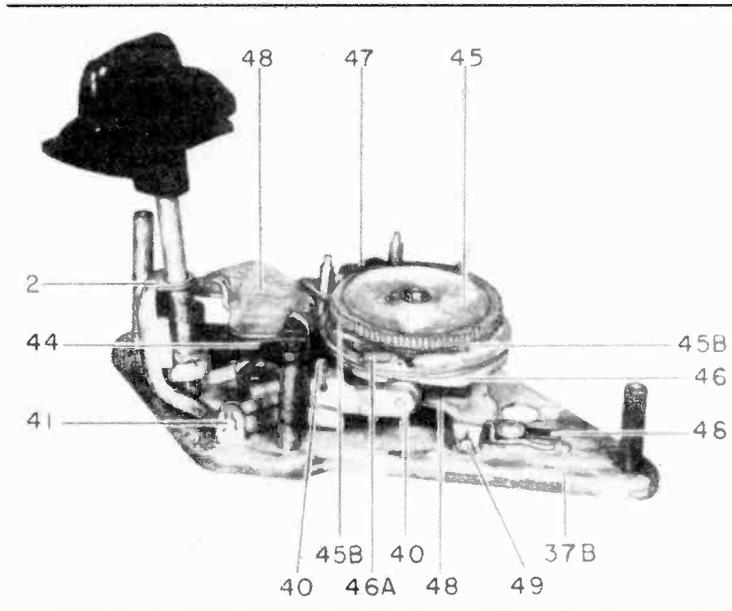

Fig. 5. Main Cam Gear Assembly
1. Changer Fails to Trip.	1. Check: (a) Adjustment A. (b) Velocity Trip and Roller Assembly binding (47, Figure 4). (c) Actuating Pawl (46A, Figure 5) stuck. (d) Automatic Trip Lever (30, Figure 3) bent and not hitting the Velocity Trip and Roller Assembly (47, Figure 3). (e) Velocity Trip and Roller Assembly rubbing on the underside of the Main Cam Actuating Gear. (f) Manual trip lever binding. (g) No velocity lead-in groove in center of record. (h) Worn record or needle. (i) Foreign matter in record groove.
2. Changer Trips Continuously.	2. Check: (a) Velocity and Roller Assembly (47, Figure 3) rubbing on Main Cam Actuating Gear (46, Figure 3). (b) Manual Trip Lever binding. (c) Hook end of Velocity Trip and Roller Assembly (47, Figure 3) bent and not engaging Pawl (46A, Figure 5). To be adjusted for about $\frac{1}{4}$ inch clearance from the bottom of the Main Cam Drive Gear. (d) Bakelite Disengage Roller broken on Velocity Trip and Roller Assembly (47A, Figure 4).
4. Manual Trip Fails.	4. (a) Manual Trip Lever Hair Spring bent or broken. (b) Velocity Trip and Roller Assembly binding (47, Figure 4). (c) Actuating Pawl stuck (46A, Figure 5). Check tension of compression spring (44, Figure 4). Check adjustment E. Check adjustment F. Check latch of record spindle. Check adjustment D. Check adjustment F. Check adjustment E. Check: (a) Record changer not level. (b) Pickup Arm binding. Check vertical and lateral friction. (c) Badly worn record or needle. Check adjustment E.